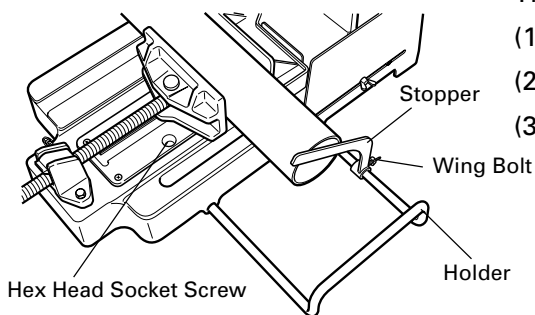

Fig. 18
9. How to use the stopper (Fig. 18)